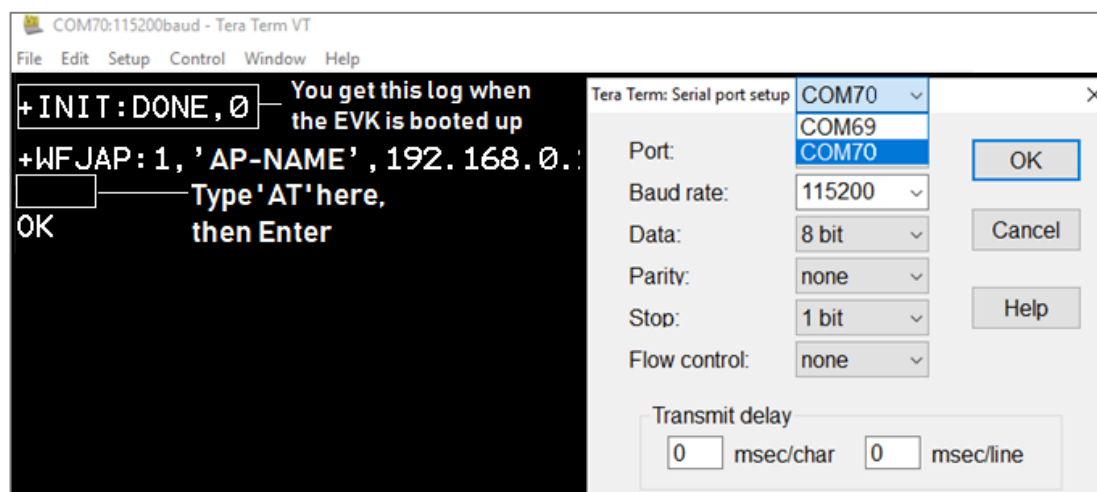

Figure 33: Initial Setup to Get Started with AT Command
5. Select **Setup > Serial Port** and configure the UART port with the parameters as shown in Figure 33. Select the higher COM port number as discovered in step 2.